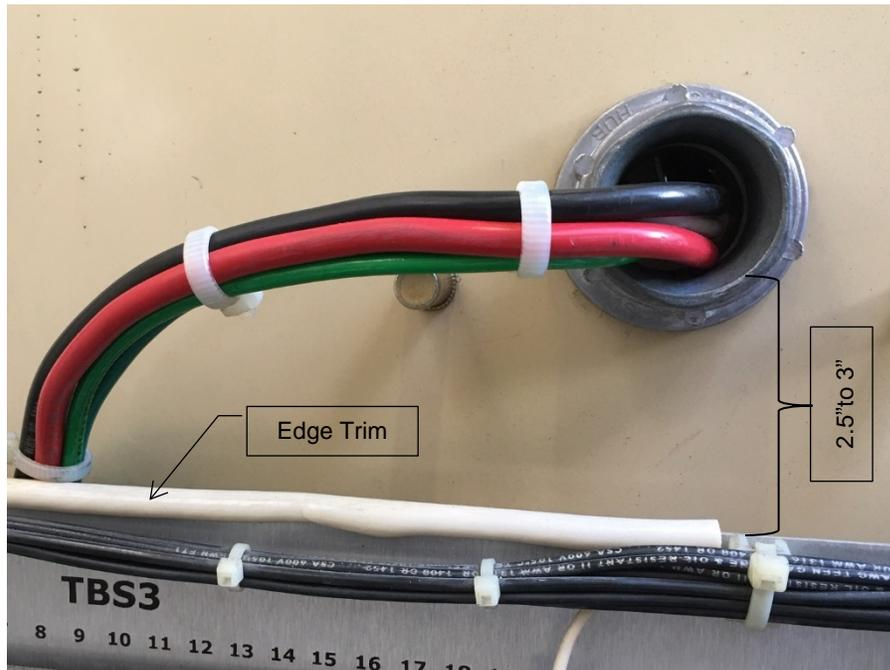

Figure 1 Ground hub Inside Traffic Signal Cabinet
- a. The bottom of the opening for the ground hub must be approximately 2.5 to 3 inches above the top of the field service panel inside the traffic signal cabinet (Figure 1).